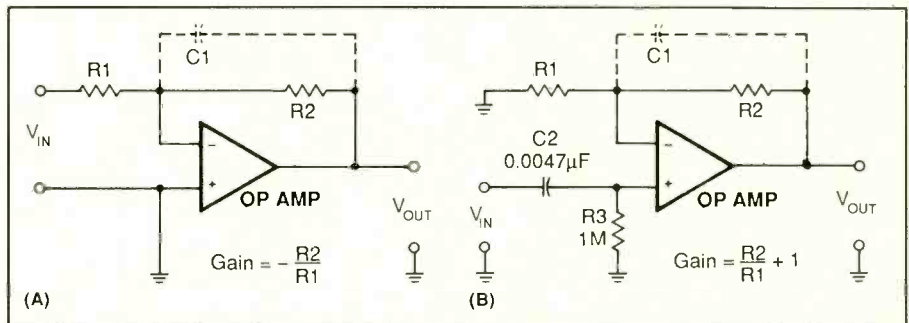

Fig. 1. Inverting follower (A) and noninverting follower (B) op-amp circuit configurations.
Shown in Fig. 1 are the schematic representations of the classical inverting and noninverting op-amp configurations that are in common usage. In Fig. 1(A) is the inverting follower amplifier configuration, while in Fig. 1(B) we see the noninverting amplifier configuration. Output from the Fig. 1(A) circuit is exactly the opposite of the input (inverted 180 degrees). Conversely, the Fig. 1(B) circuit's output is the same as its input signal (no inversion). In either case, the output can be lower or higher in amplitude than the input signal or the same amplitude as the